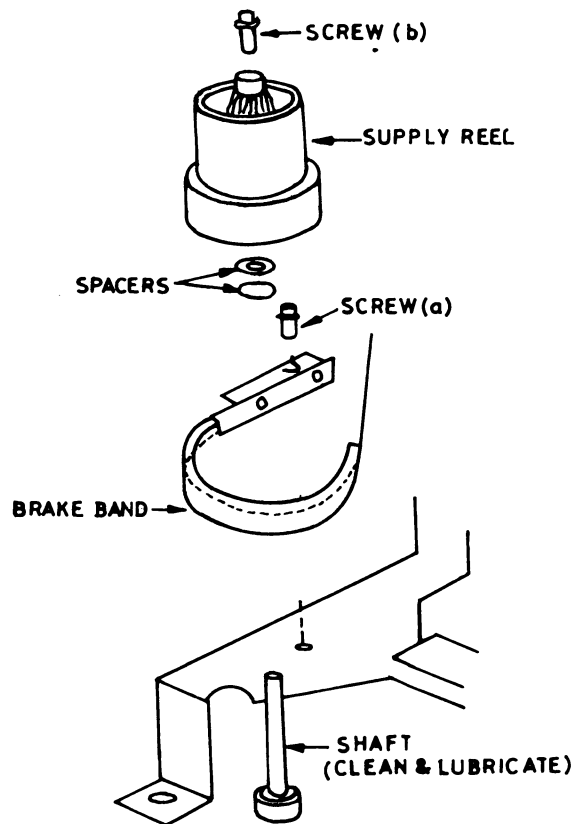

Fig. 10.4. Supply reel cleaning and lubrication
2. Remove screw (a) which fixes the brake band and move the brake band from the supply reel as shown in fig. 10.4.